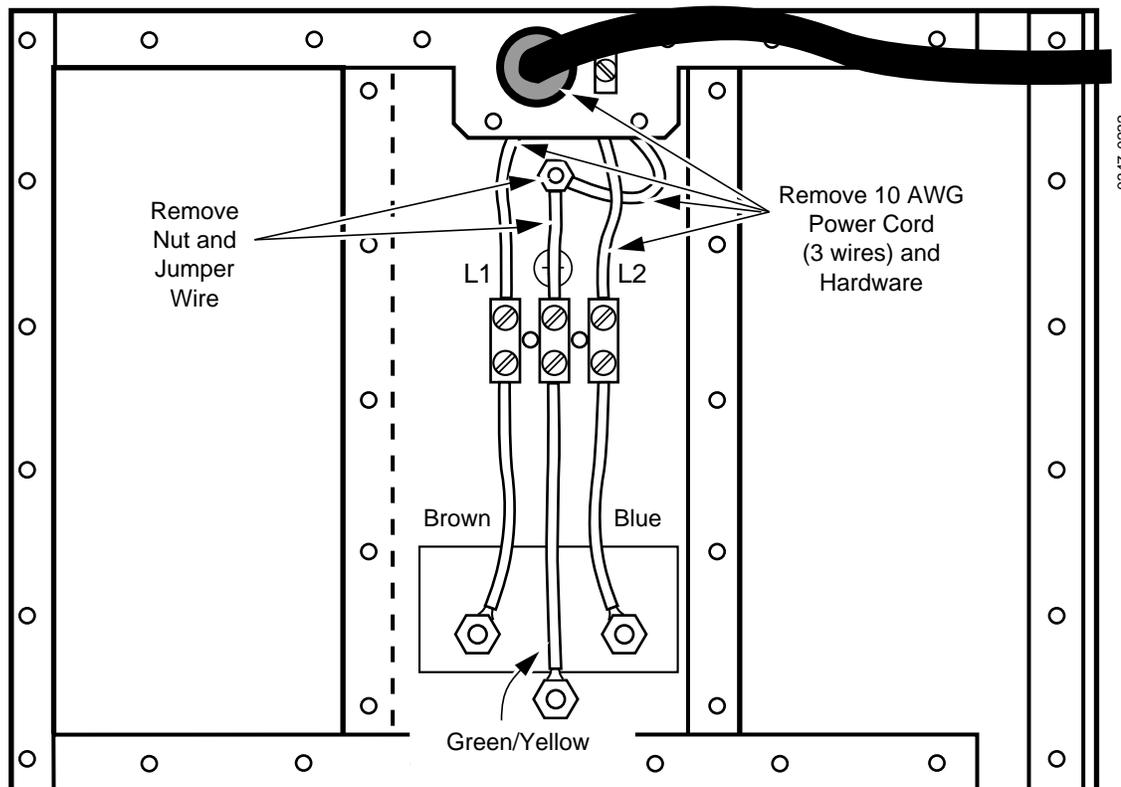

Figure 2-29. For 110 Vac Operation – Remove 220 Vac Wiring
3. In the center section, disconnect the incoming AC power wires from the left and right sides of the terminal block (see Figure 2-29).